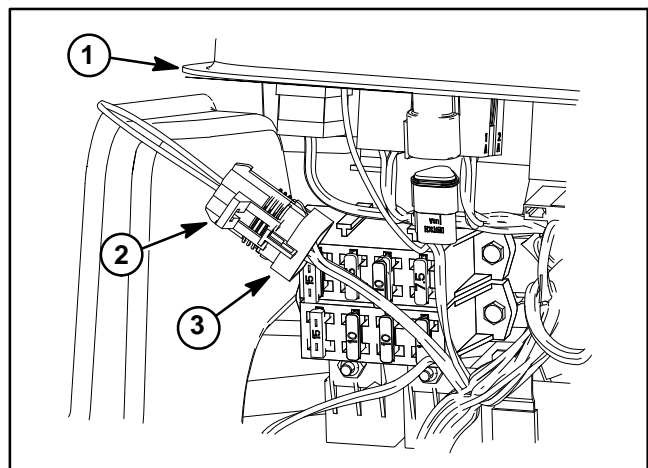

Figure 8
- D The loopback connector located below the control panel is not connected to the wire harness (Fig. 8).